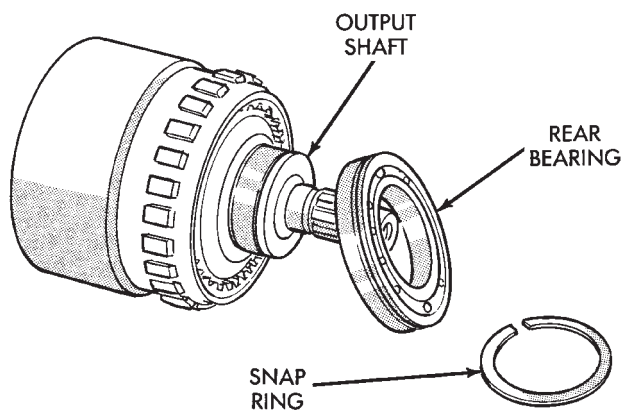

Fig. 18 Rear Bearing Removal
- (8) Remove rear bearing from output shaft (Fig. 18).